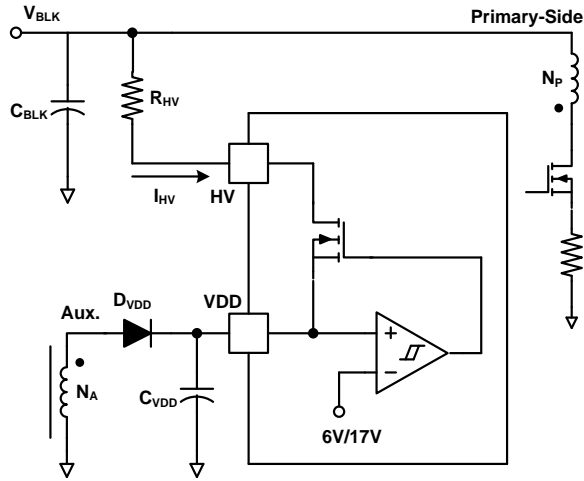
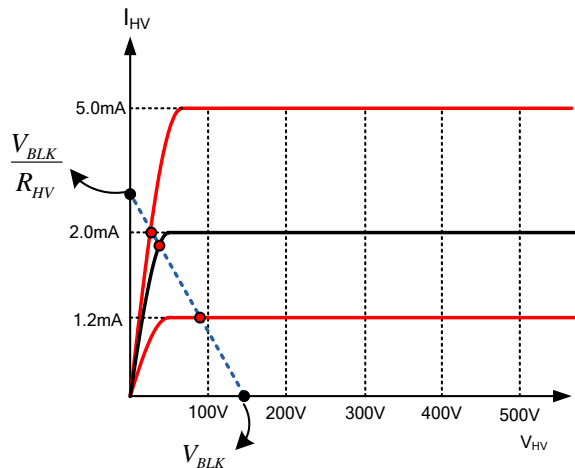

Figure 30. HV Startup Circuit
Figure 31. V-I Characteristic of HV Pin
Figure 30 shows the high-voltage (HV) startup circuit for FAN501A applications. The JFET is used to internally implement the high-voltage current source (see Figure 31 for characteristics). Technically, the HV pin can be directly connected to voltage ( $V_{BLK}$ ) on an input bulk capacitor. To improve reliability and surge immunity, however, it is typical to use a  $\sim$ 100 k $\Omega$  resistor between the HV pin and bulk capacitor voltage. The actual HV current with a given bulk capacitor voltage and startup resistor is determined by the intersection of V-I characteristics line and load line, as shown in Figure 31.